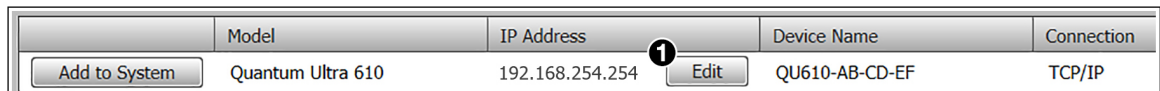

Figure 75. Editing a Device IP Address
- a. In the **Select Device(s) to Add** panel, click the **Edit** button (see figure 75, ①).